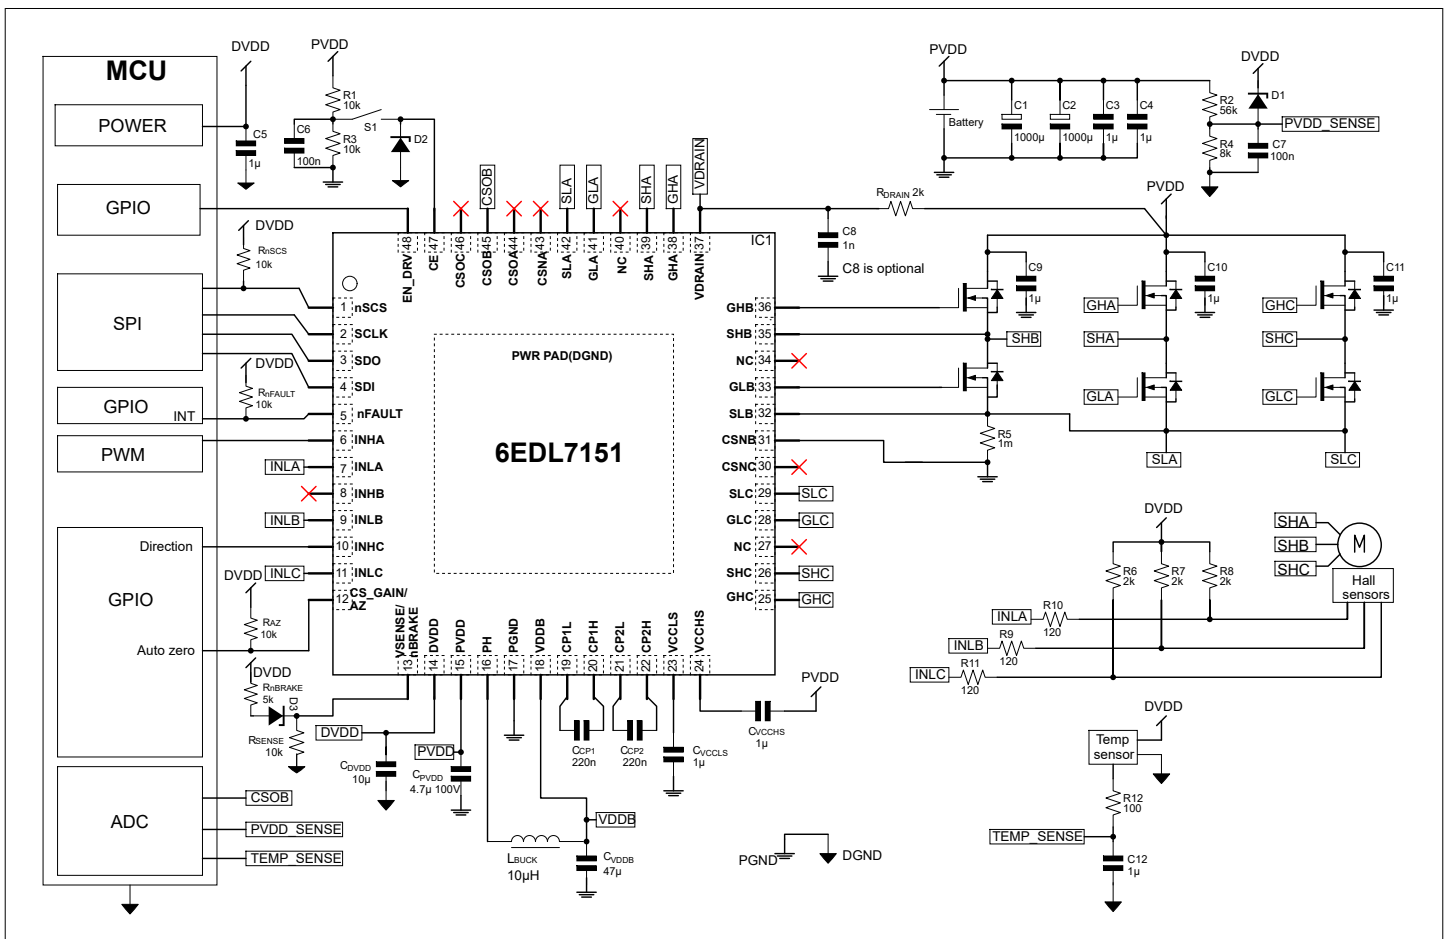

**Figure 72**      **Current sense amplifier input filtering**
RC filter at SLx and CSNx is not preferred and hence must be done with care. Resistors  $R1$  and  $R2$  as shown in Figure 72 introduce unexpected voltage drops due to amplifier bias current and/or gate driver current, which affect the  $R_{SHUNT}$  current sensing accuracy.  $R1$  also limits the current of low-side (LS) gate driver and acts in fact as a  $R_g$  resistor. A parallel capacitor ( $C1$  as shown below) between SLx and CSNx can be used. This can increase switching noise during MOSFET switching, at the same time improve steady state value. Larger capacitor values will accentuate this effect. Depending on application this value can be adjusted. The parallel capacitor should be close to the SLx and CSNx inputs pins on PCB and values between 100 pF to 1 nF can be a good starting point.